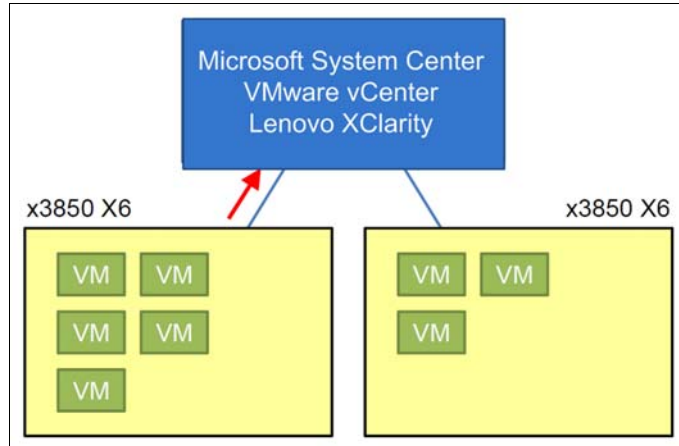

Figure 7-24 RAS event reports up the chain
1. A RAS event that is detected on the server (see Figure 7-24) is reported up the chain to Microsoft System Center, VMware vCenter or XClarity.